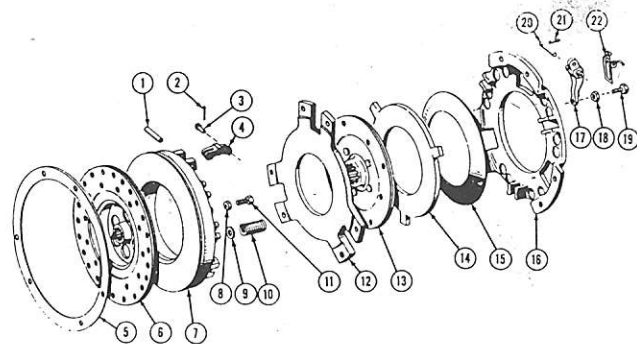
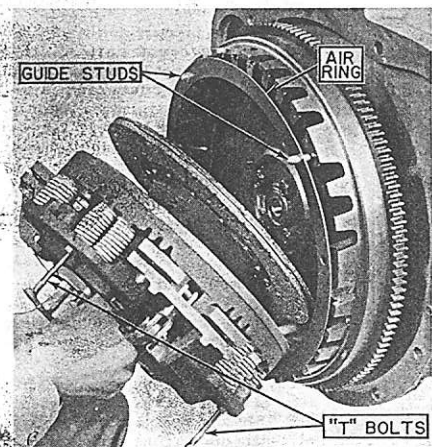
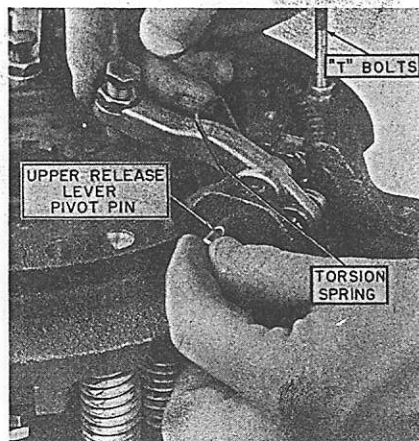
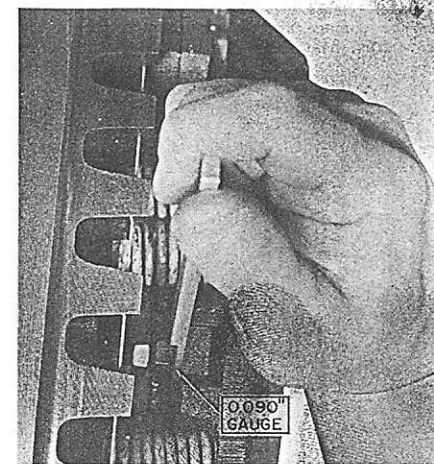

Fig. 199—Exploded view of dual clutch of the type used on most models.
Fig. 198—Special "T" bolts are used for removal and installation of dual clutch. Guide studs are used when installing.
Fig. 200—Removing upper release lever pivot pin.
Fig. 203—Checking primary pressure plate frequency.
To remove the clutch, first split tractor as outlined in paragraph 167 or 168. Make up three special "T" bolts by welding a cross bar to 1/4-20 x 6 inch bolts, then add forcing nuts. Install the "T" bolts in the three holes in outer edge of clutch cover as shown in Fig. 198 and tighten the nuts to compress the springs. Mark the clutch cover (16—Fig. 199), pressure plate (14), drive plate (12) and pressure plate (7), to assure correct assembly and maintain clutch balance; remove the retaining cap screws, and lift the clutch assembly from flywheel as shown in Fig. 198.
171. OVERHAUL. To disassemble the removed clutch unit, unhook the three torsion springs (22—Fig. 199) from clutch release levers (17). Back off the lock nuts (8) and thread adjustment screws (11) into pressure plate (7) until they bottom. Back off the forcing nuts on the three "T" bolts until Belleville washer is free and clutch fingers assume the approxi-
position shown in Fig. 200; then drive the groove pins (21—Fig. 199) into the cover until pivot pins (20) can be removed. NOTE: Groove pins can be removed from the bottom after clutch is disassembled. Do not attempt to drive the pins out of clutch cover, or Belleville spring may be damaged.
Tighten the forcing nuts on "T" bolts until pivot pin holes can be aligned in release levers and clutch cover; position the torsion spring (22) and insert the pivot pins (20), making sure positioning holes for groove pins (21) are aligned. Refer to Fig. 200. Use new groove pins (21—Fig. 199) to secure the pivot pins, hook the torsion spring ends, then remove the previously installed 5/16-inch bolts and nuts. Adjust the clutch as outlined in paragraph 172.
With the clutch plate to be used installed, adjust the pto pressure plate clearance to 0.080 for MF165 and 0.090 for other models, as shown in Fig. 203. Adjustment is made by varying the height of adjusting screws (11—Fig. 199) which thread into transmission clutch pressure plate (7).